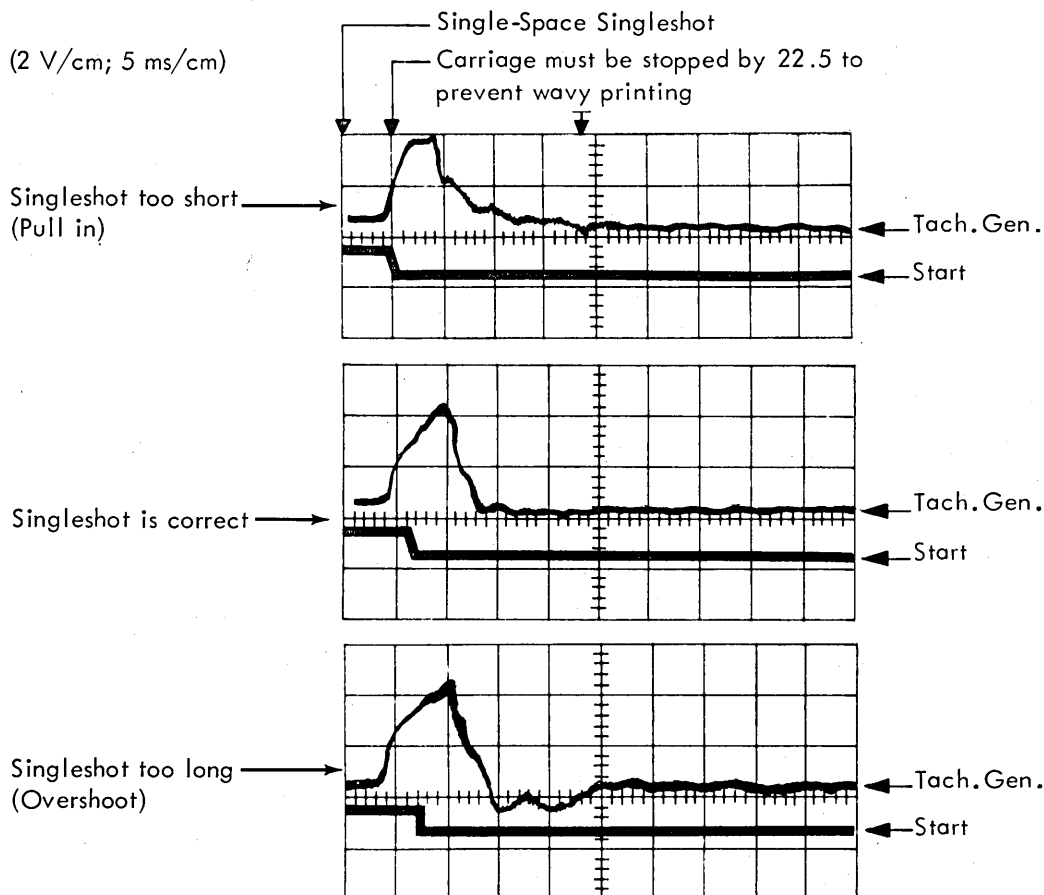

Figure 1-55. Single Space: 6-Lines per Inch
1. Adjust in single space after print operation (Figure 1-55).